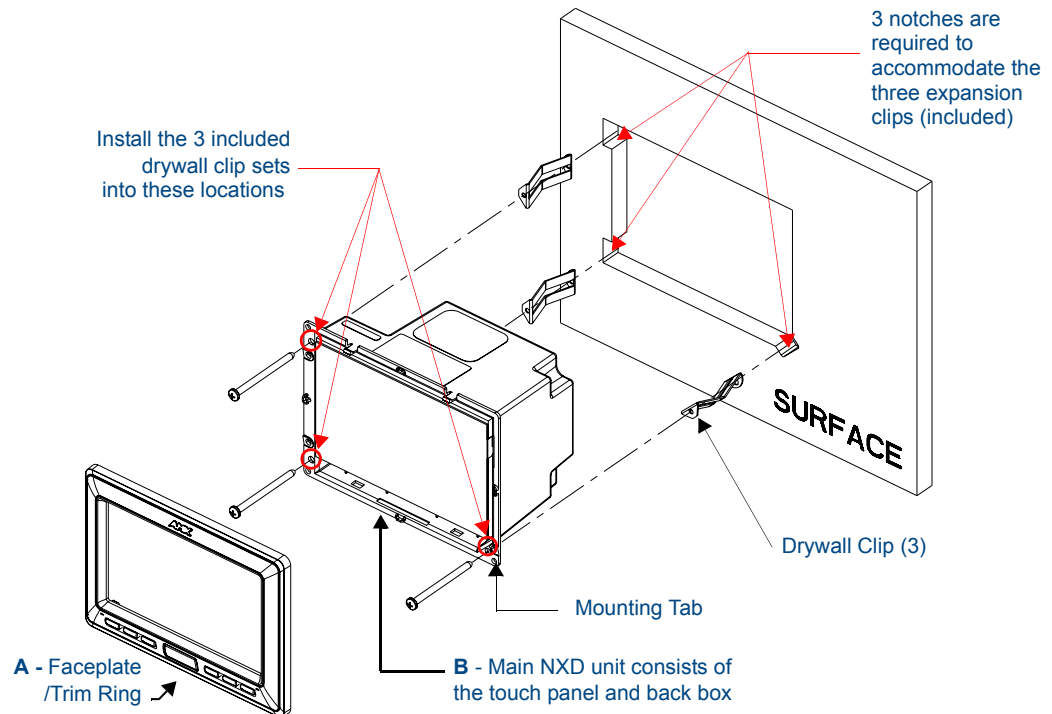

FIG. 19 Wall Mount panel (NXD) installation configuration for drywall surfaces
3. Remove the Faceplate/bezel (**A** in FIG. 19) from the main NXD unit (**B** in FIG. 19) by gripping the faceplate and pulling with gentle outward force.
8. Install the three sets of drywall screws and expansion clips into the three oval notch locations along both sides of the main unit (**B** in FIG. 19).
11. Place the Faceplate/Trim Ring assembly (**A** in FIG. 19) back onto the main NXD unit (**B** in FIG. 19). Make sure to align the Microphone, Light, and PIR Motion sensor locations to their respective openings on the front faceplate/bezel.